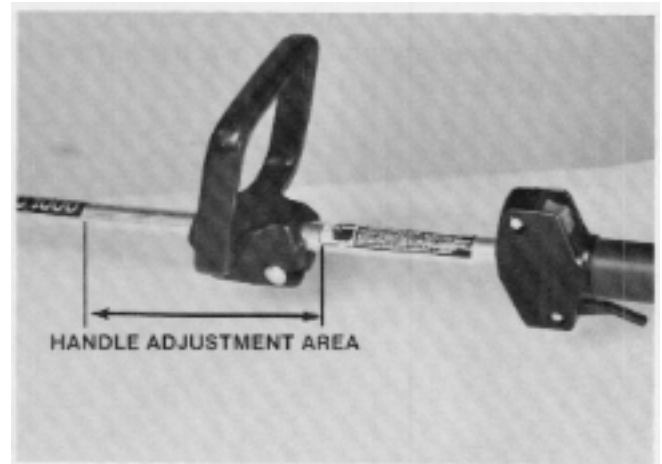

Figure 117
2. Position the handle mount approximately 20 cm (8 inches) from the control mount. See Figure 117.